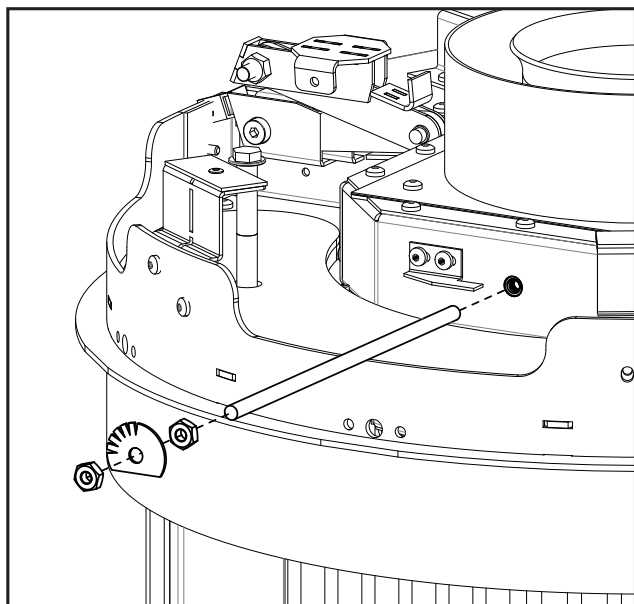

Figure 69: Restrictor Rod Removal
6. Remove the threaded rod from the exhaust spigot (see Figure 69). A power drill with a 7/16" socket and extension will be helpful here.